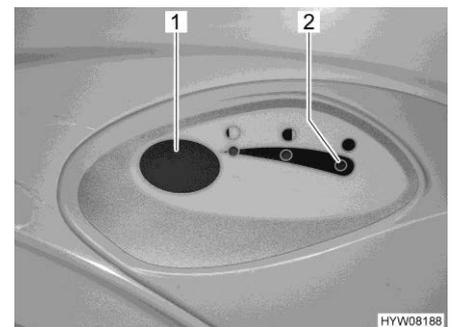

Fig. 159 Flush button/indicator lamp (Thetford toilet)
- For flushing, press the blue flush button (Fig. 159,1).
The indicator lamp (Fig. 159,2) lights up whenever the sewage tank has to be emptied.